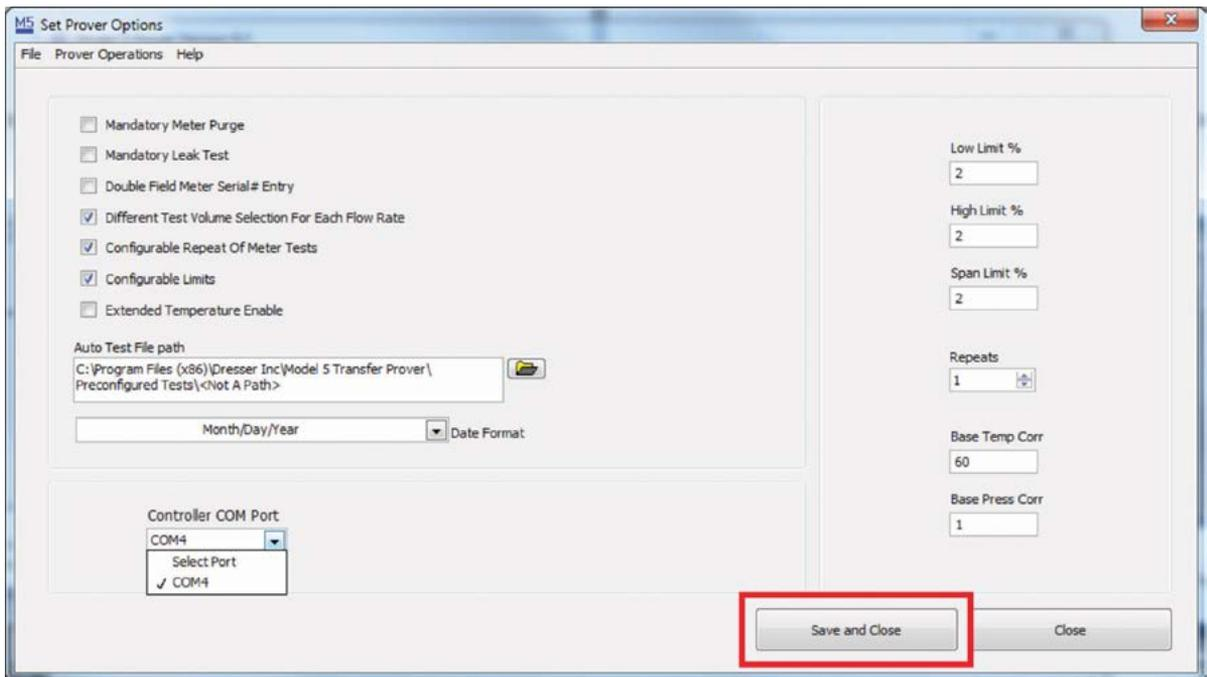

Figure 123: Save and Close
- When complete, click “Save and Close” as shown in **Figure 123**.